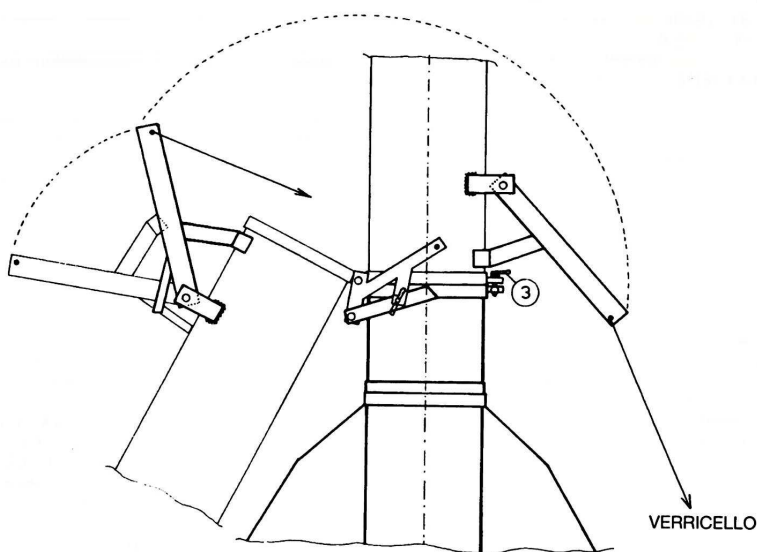

FIG 3B - VERTICAL AUGER FOLDING
Step Six: Using the vertical auger winch (beside the control cabinet) **raise** the folding auger into its vertical position. Once the auger is correctly positioned climb the ladder and tighten up the wing nut item 3 in Fig 3B.
Step Four: Finally climb the ladder and tighten up the wing nut item 3 in Fig 3B, check the position of the swivel discharge on the top rim – it may be necessary to adjust the guide rollers to support the weight of the chute.
First Step: To start the lowering of the top auger extension pull the wire that is positioned at the rear of the dryer and has at its end a round steel ring. First you need to undo the wing nut item 3 in Fig 3B.